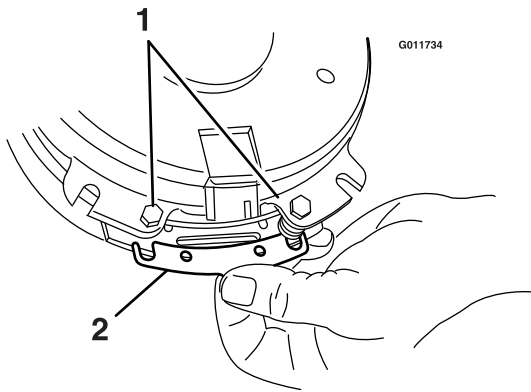

Figure 23
- A. Loosen both brake mounting bolts one-half to one full turn (see Figure 23).